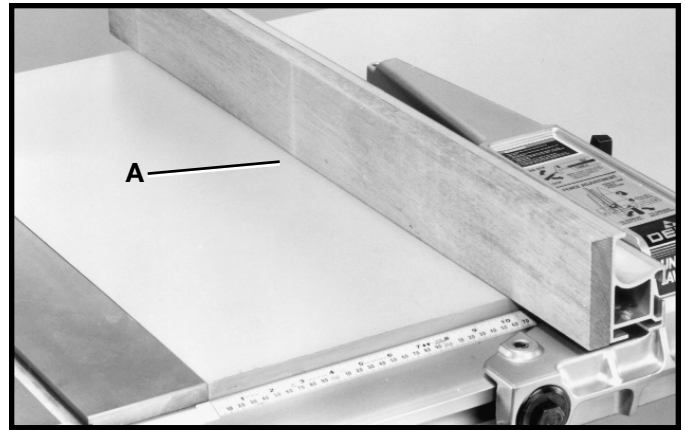

Fig. 71
When performing special cutting operations – and that operation may cause the cutting implement to contact the fence – it is necessary to add a wood facing (A) Fig. 71, to one side of the rip fence as shown. The wood facing is attached to the fence with wood screws through holes drilled in the fence. 3/4-inch stock is suitable for most work, although an occasional job may require one-inch facing.